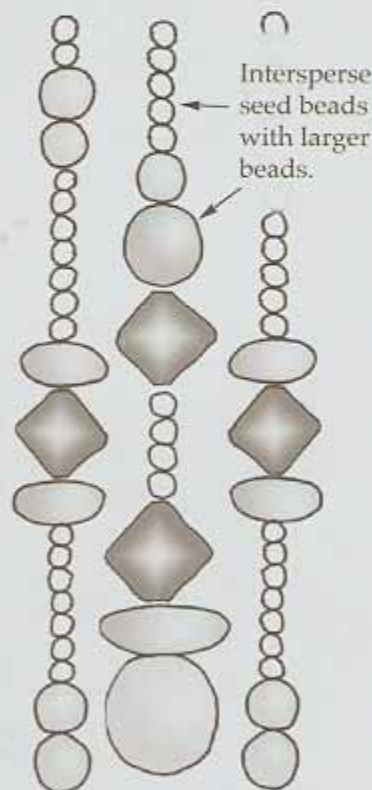

Fig. 10
18. Start with the center-most cord and add beads. This will be your longest strand of fringe. I recommend that you put on 3 or 4 seed beads, followed by some larger beads, another section of seed beads, followed by some larger beads, etc. This creates some breathing space between the larger beads and helps with the bead placement in adjoining strands (see Figure 10).